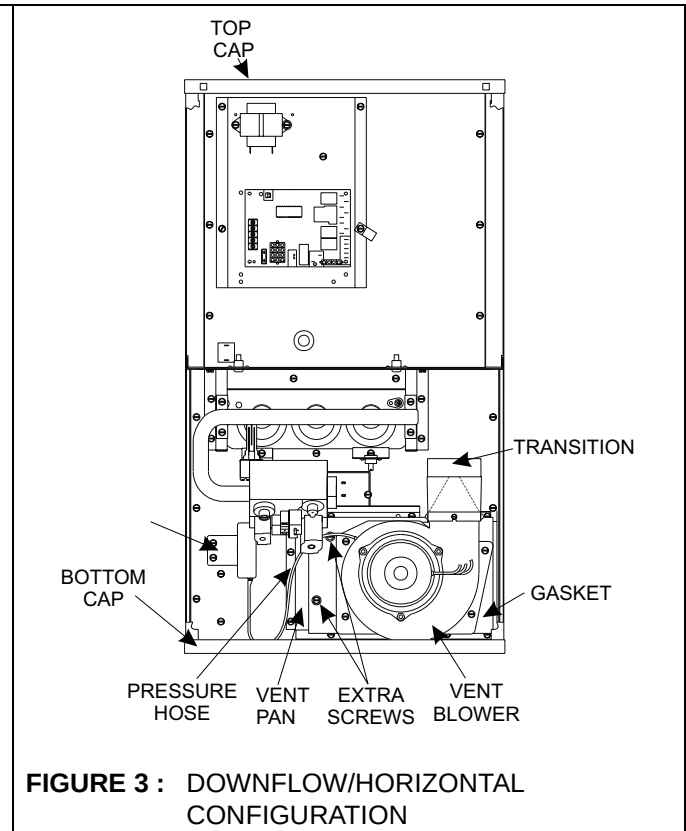

FIGURE 3 : DOWNFLOW/HORIZONTAL CONFIGURATION
10. Rotate the vent blower 180° so that its outlet points toward the inlet air end of the furnace. See Figure 3.
12. Install the two extra machine screws in the two open holes in the front of the vent pan. See Figure 3.
16. Install the top cap at the opposite end of furnace from the vent blower, using the seven sheet metal screws saved earlier. See Figure 3.
17. Install the bottom cap on the bottom of the furnace using the sheet metal screws saved earlier. See Figure 3.